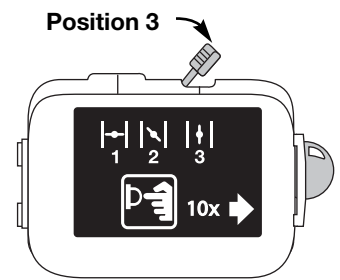

Fig. 10
10. Place the choke lever in **Position 3** (Fig. 10). The unit is ready for use.